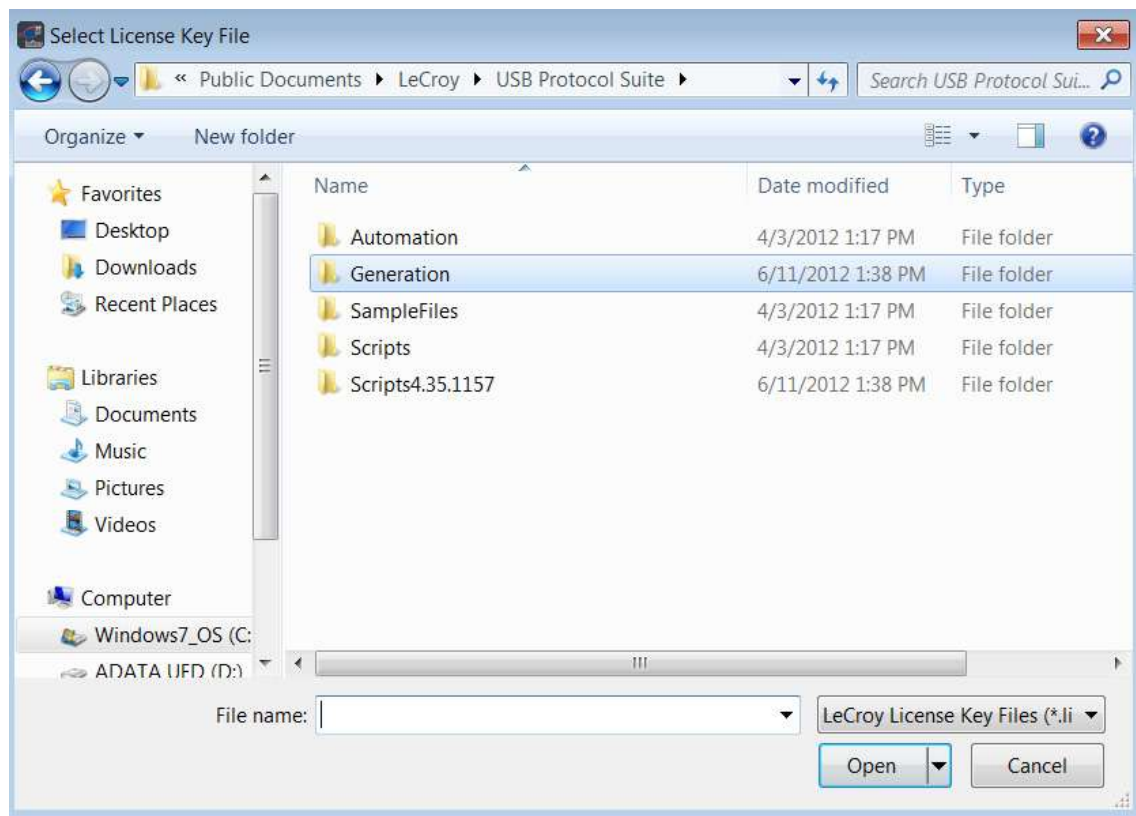

Figure 13.8: Select License Key File Dialog
1. From the Help menu, select **Display License Information** to display the License Information Dialog (see Figure 13.8).